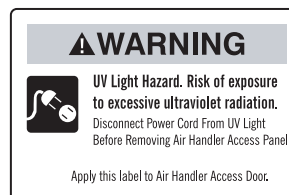

Fig. 6a Attach power disconnect label to air handler access panel.
- Safety label installed on door to air handling unit. (See Fig. 6a)